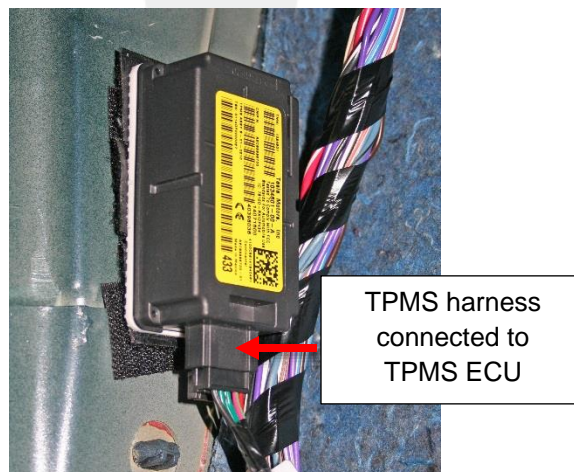

Figure 14
12. Pull the harness towards the rear of the vehicle and connect the electrical connector to the TPMS ECU (Figure 14).